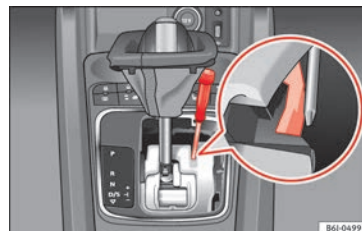

Fig. 47 Manual release of the selector lever.
- Press the yellow plastic part with your finger in the direction indicated by the arrow » » **Fig. 47**.